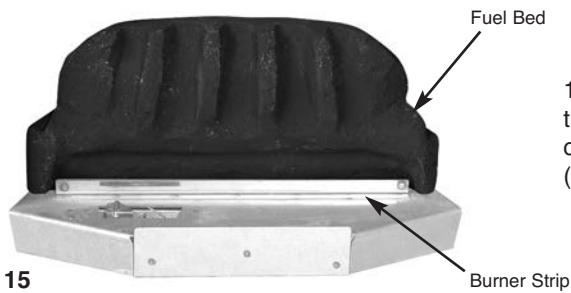

Fig. 15
1. Place the main fuel bed on to the middle section of the metal burner tray. It is important that the front edge of the fuel bed is located behind the burner strip (Fig. 15).